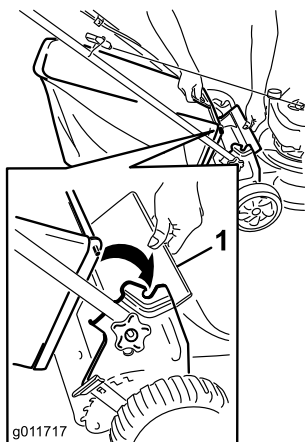

Figure 15
1. Lift up the rear deflector (Figure 15).
2. Insert the grass bag handle onto the notches on the handle brackets (Figure 15).